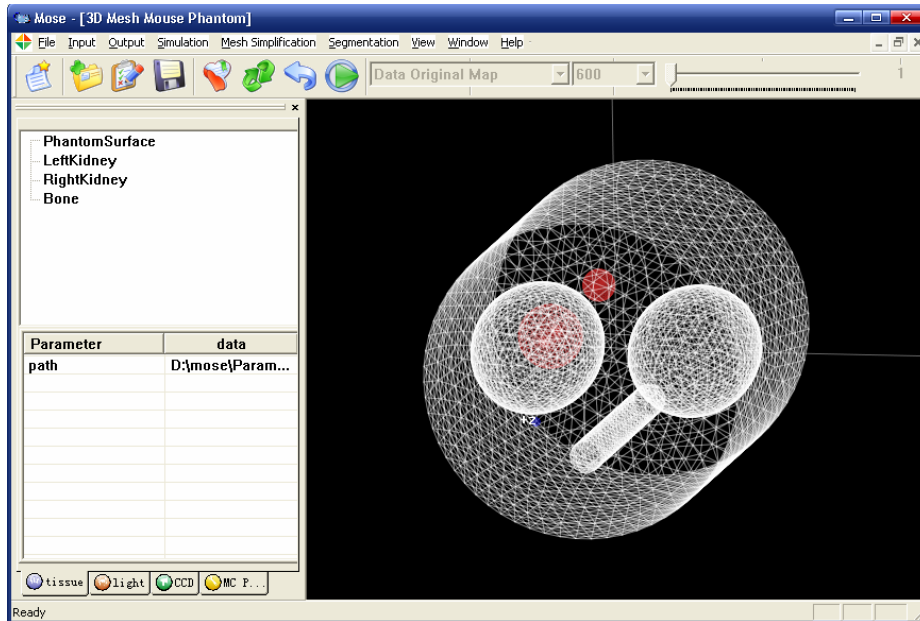

Figure 4. Open a project that is in 3D mesh environment
3. **Open a project:** You can open the project you have simulated before. Select the **Open** menu under the **File** menu or click the button  on the toolbar, and find the parameter file (.mse file) you have saved last time, MOSE will automatically select the simulation environment and show the image of the phantom according to the parameter file(Figure 4).